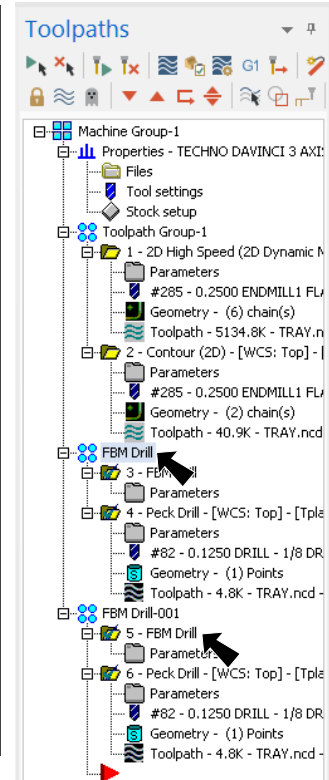

Fig. 91
Step 3. In the Toolpaths Manager **Ctrl** click both **FBM Drill Toolpath Groups** to select both Toolpath groups, Fig. 91.